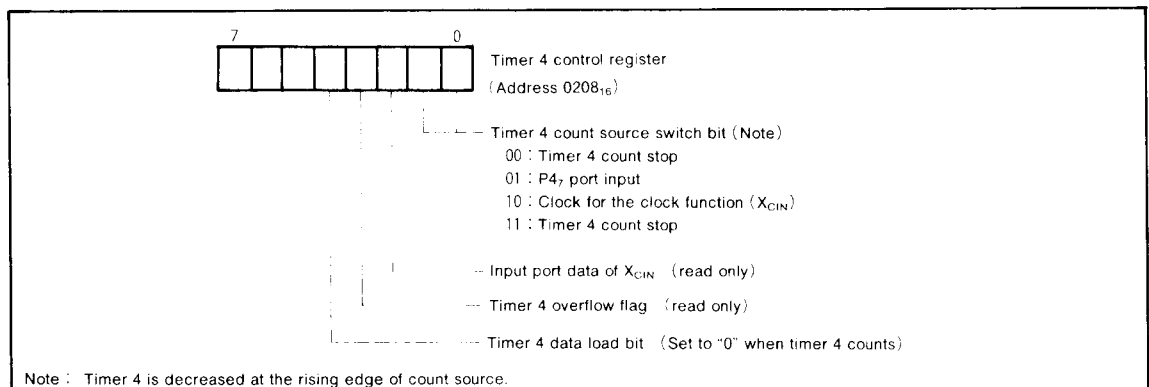

Fig. 8 Structure of timer 4 control register
The count source of timer 4 can be selected by bit 0 and bit 1 of timer 4 control register (address 0208_{16}). When bit 0 and bit 1 are set to (00) or (11), timer 4 stop counting. The structure of timer 4 control register is shown in Figure 8.